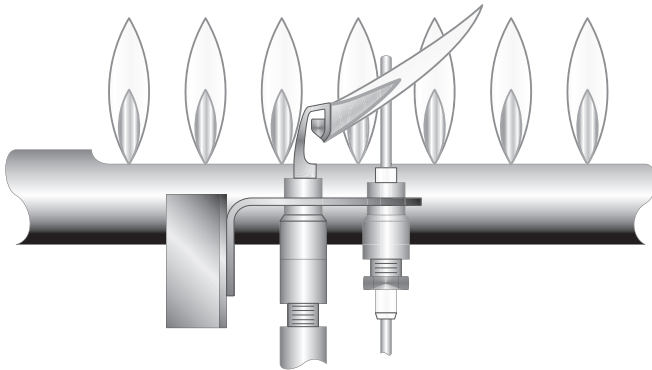

Figure 8.1: Pilot and Burner Flames
- c. Adjust the Main Gas Pressure Regulator to obtain 3.5 inches water column on Natural Gas or 10 inches water column on Propane (LP) Gas.
7. Check the main burner and pilot flames (see Figure 8.1). The flame inner cone should be about 1-1/2” high and should have a very sharp blue color. Poor flame conditions can be caused by dirty burners, obstructed orifices or incorrect gas pressure.